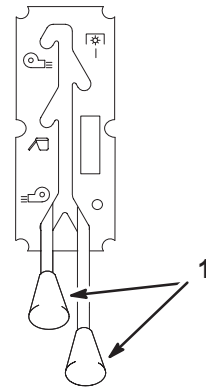

Figure 10
3. Install the oval knobs on the draft control and the collector clutch control (Fig. 10).